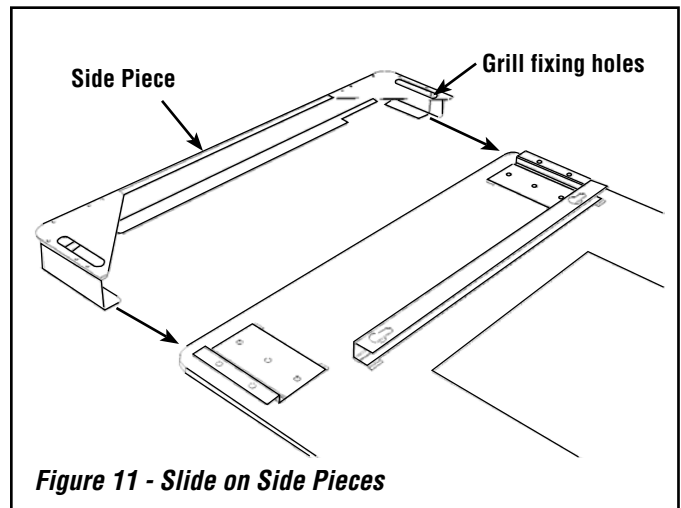

Figure 11 - Slide on Side Pieces
2. Slide on the side pieces ensuring that the grill fixing holes (shown) are aligned towards the top of the glass facia (as shown in **Figure 11**).